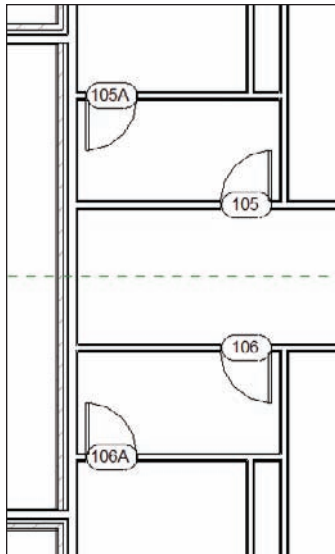

FIGURE 2.72 Adding lavatory doors. You will have to renumber the tags.
7. Add bathroom doors, as shown in Figure 2.72. Use Single-Flush: 36" × 84"?